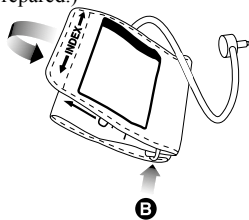

Fig. 8
- Pass the end of the cuff (Fig. 8) (with sewn-in rubber stopper) through the metal stirrup so that a loop is formed. The Velcro closer must be facing outwards. (Ignore this step if the cuff has already been prepared.)